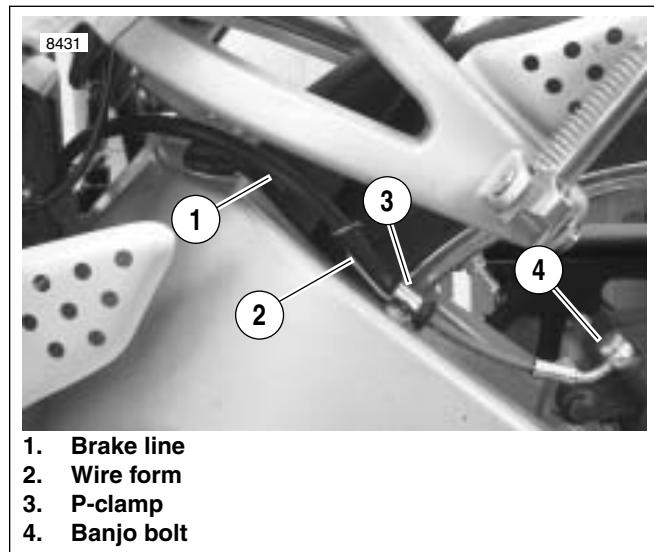

Figure 2-55. Rear Brake Line
6. See Figure 2-55. Remove p-clamp (3) and wire form (2) securing brake line (1) to the left side of swingarm.
3. See Figure 2-55. Secure brake line (1) to left side of swingarm with p-clamp (3), wire form (2), and tighten to 36-60 **in-lbs** (4-7 Nm). See HOSE AND WIRE ROUTING for brake line routing.